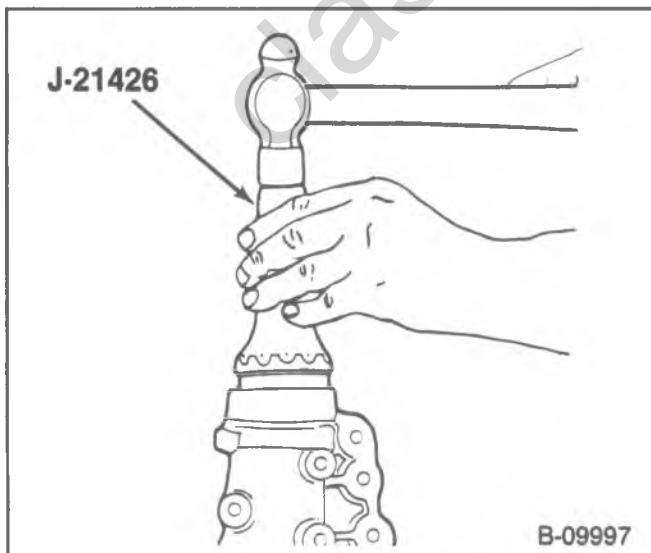

Figure 3—Rear Extension Seal Installation (3 Speed/4 Speed O.D.)
1. Locking compound on the outside of a new seal (105).
2. New seal (105), use J-21426 (figure 3).